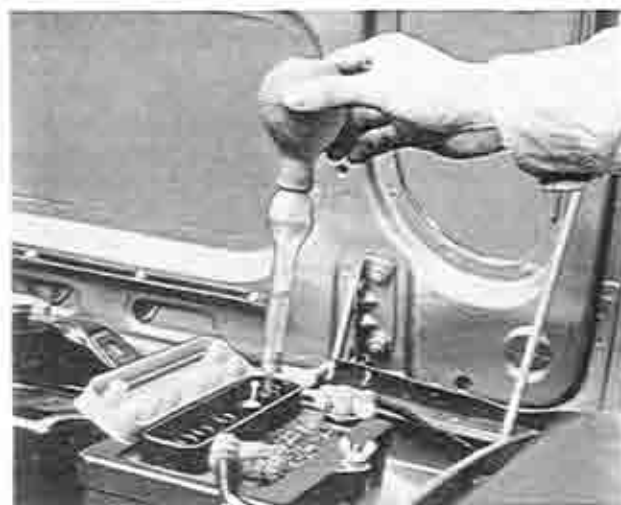

Fig. 5-1 Checking the specific gravity
2. Check the specific gravity of the electrolyte with a hydrometer, as shown in Fig. 5-1. If the reading is 1.26 or more, it indicates that the battery is fully